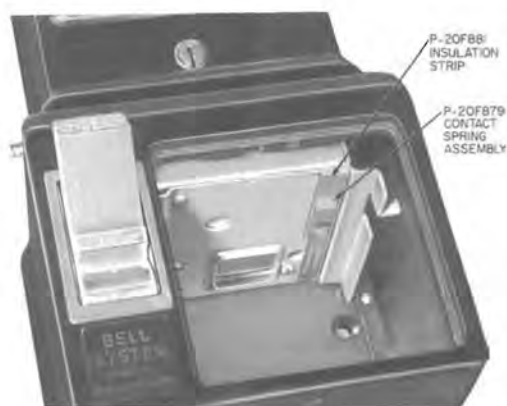
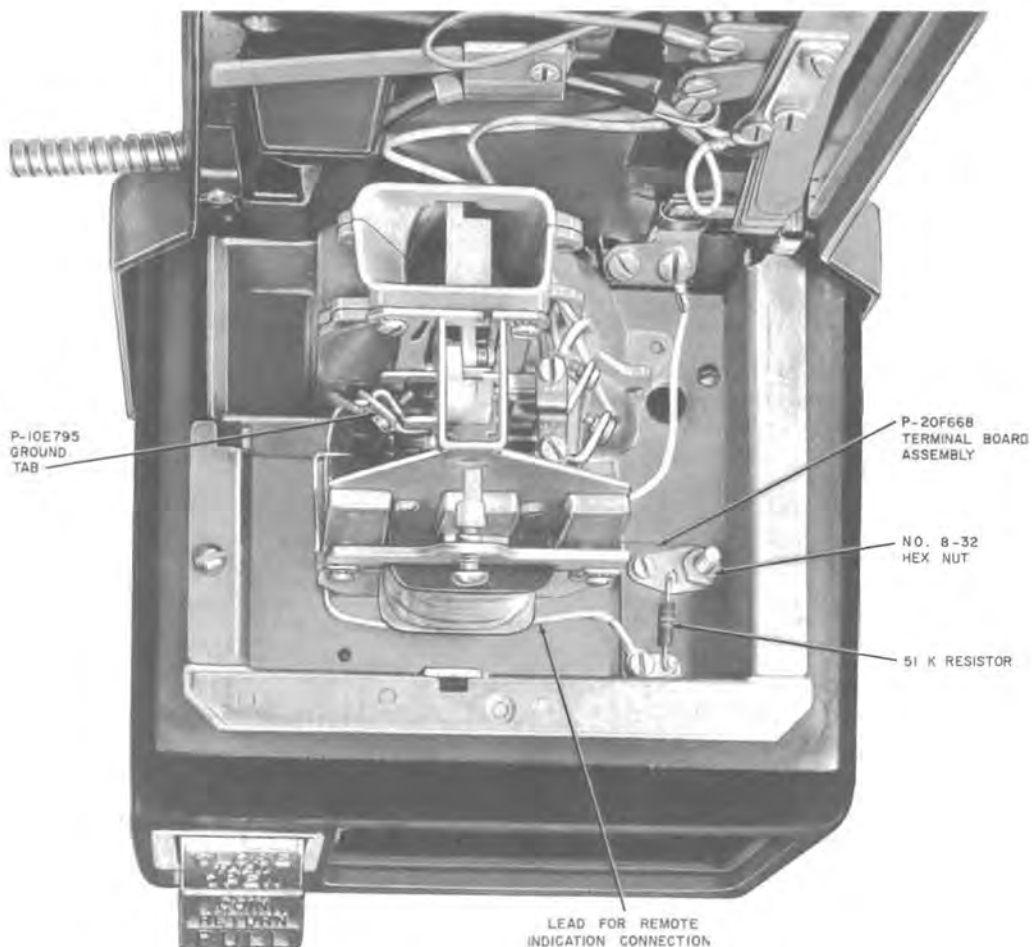

Fig. 7—Installation of Insulation Strip and Contact Spring Assembly
Fig. 8—Installation of Terminal Board Assembly
- (1) Remove totalizer assembly and coin chassis as follows:
- (b) Disconnect (BK) and (Y) leads from coin relay and carefully pull leads through guide hole in hopper.
- (8) Position the insulation strip against the 1B rail with the boss on the strip in the 1/4-inch mounting screw hole (Fig. 7). Hold the contact springs in place with the stud extending through the hole drilled in the base, and fasten the terminal board in place on the housing base with the nut provided (Fig. 8).
4.02 The lead provided with the D-180042 kit is equipped with a screw clamp to facilitate fastening to the ground tab (P-10E795) on the coin relay (Fig. 8). Care must be taken not to alter the adjustment of the coin relay by bending the spring member. Connect the spade tip of the lead to the front terminal on the terminal board.